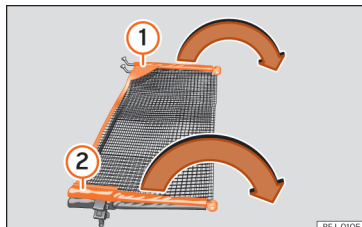

Fig. 201 Deploying the net partition.
- Extend the cross rods >>> Fig. 201 ① and ② of the net in the direction of the arrows until a "clicks" is heard.